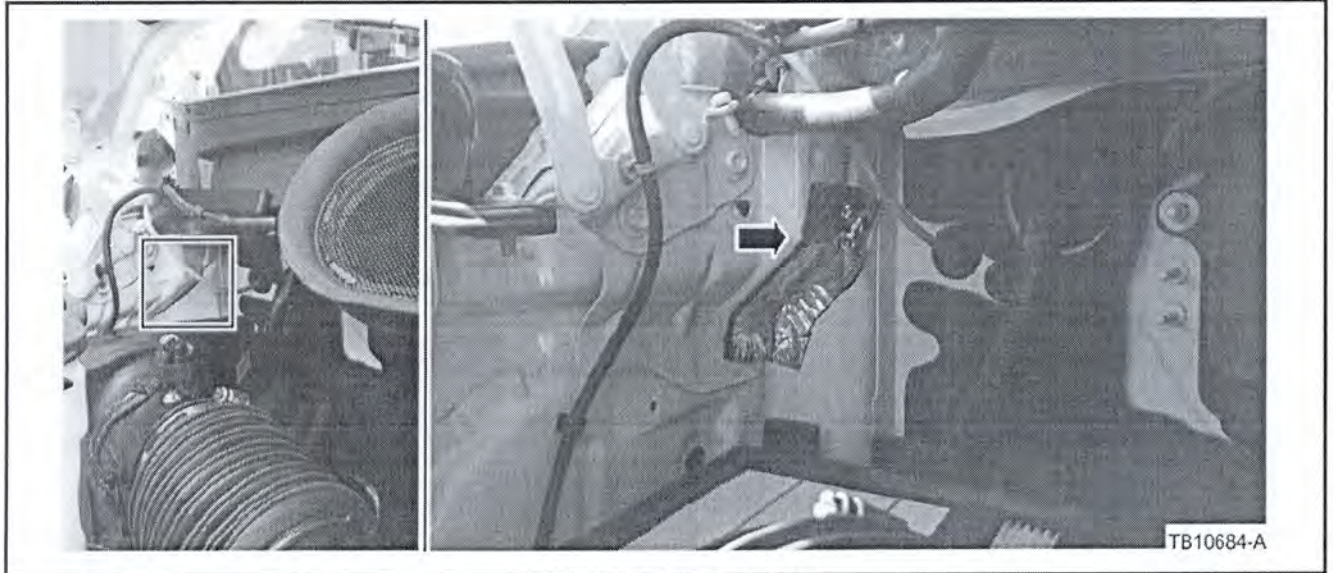

Figure 4 - Article 15-0074
- b. Clean the body joint between the right inner fender and dash panel. Wipe the area clean with Motorcraft® Metal Surface Prep Wipes or equivalent. (Figure 4)
- c. Cut the mastic patch to 8 cm x 13 cm (3" x 6") and apply the patch to the area making sure to have good adhesion to both sides of the body. Remove any debris from the air cleaner tray. (Figure 4)